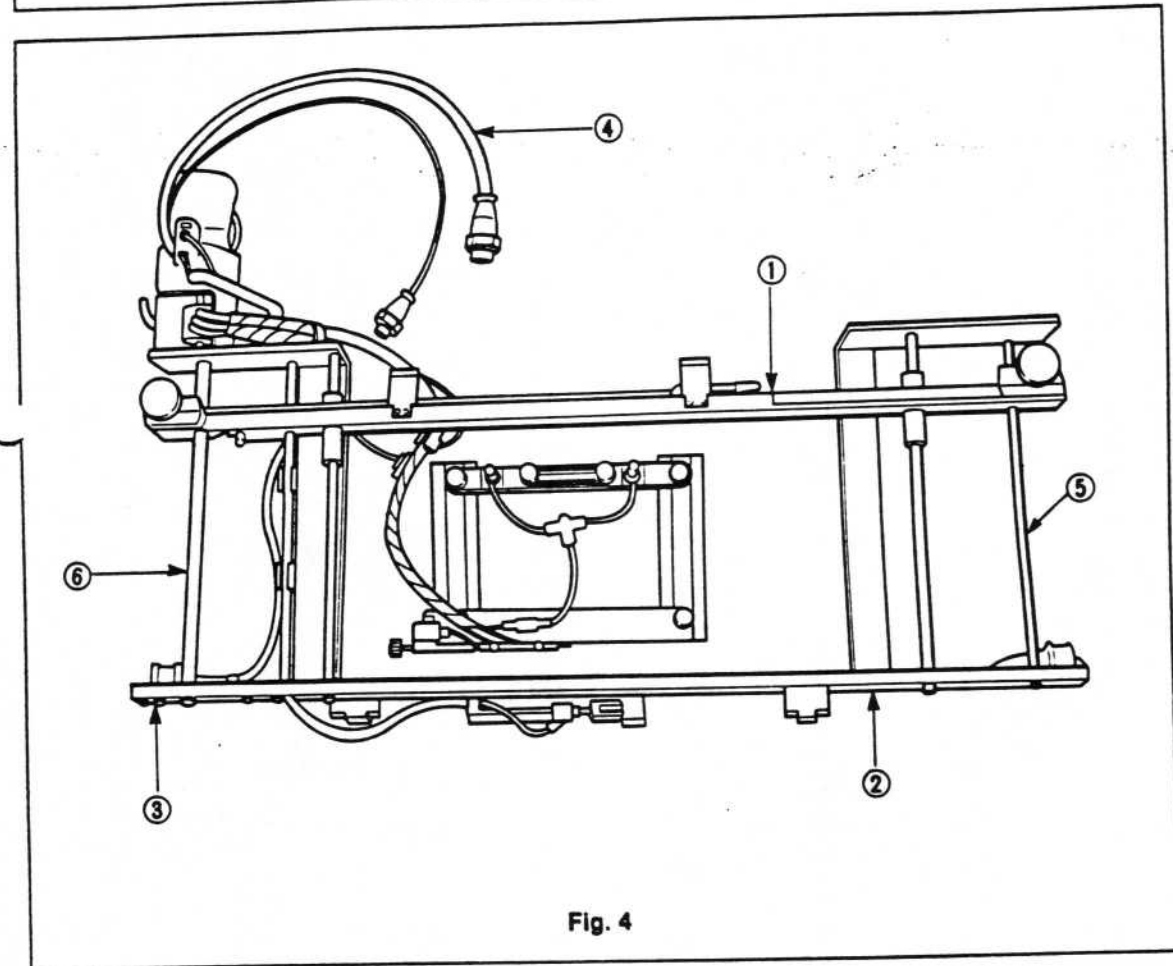

Fig. 4
3. Replace the conveyer lead assembly (④ in Fig. 4).